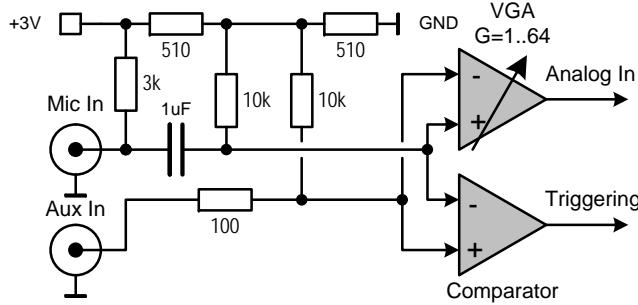

Figure 18: AUX In and Mic In inputs circuit
The instrument supports two types of analog modulation: frequency (FM) and phase (PhM) modulation. Either internal (sinusoidal or rectangle waveform) or external source can be used as the modulating signal. Signal from external source can be applied to AUX In or Mic In inputs. The signals from these inputs are sampled by the ADC and are used for frequency and phase control in digital form. AUX In and Mic In inputs specification is shown in table 10, figure 18 shows input path schematic.